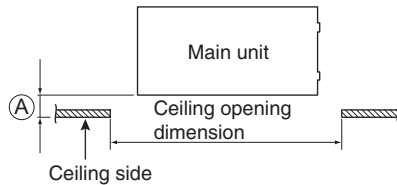

Fig. 7-12
- (2) Confirm that the positions of the indoor unit and the ceiling are as shown in the diagram. If the positions of the ceiling surface and unit do not match, air leakage, water leakage, flap operation failure, or other problems may occur.
- **Never place the panel face-down. Either hang it vertically or place it on top of a projecting object. Placing it face-down will damage the surface. (Fig. 7-12)**
- Ⓐ must be within the range of 13 – 18 mm. (Fig. 7-12)